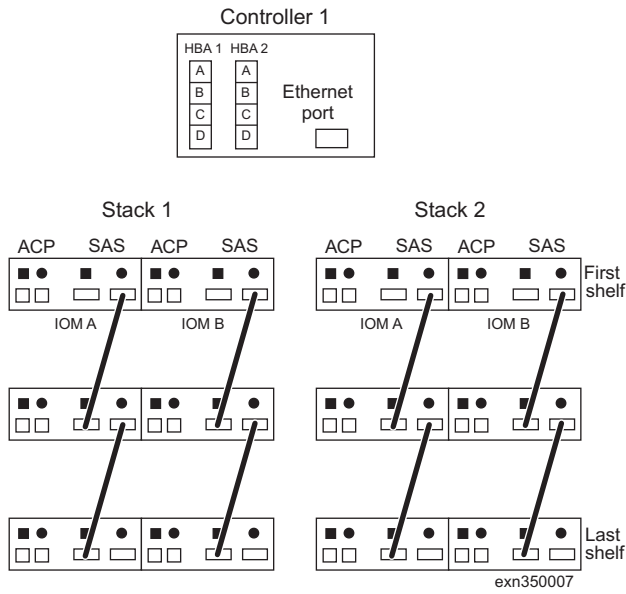

Figure 8. Daisy-chain the SAS ports
1. Daisy-chain the SAS ports, as shown in Figure 8 on page 7.